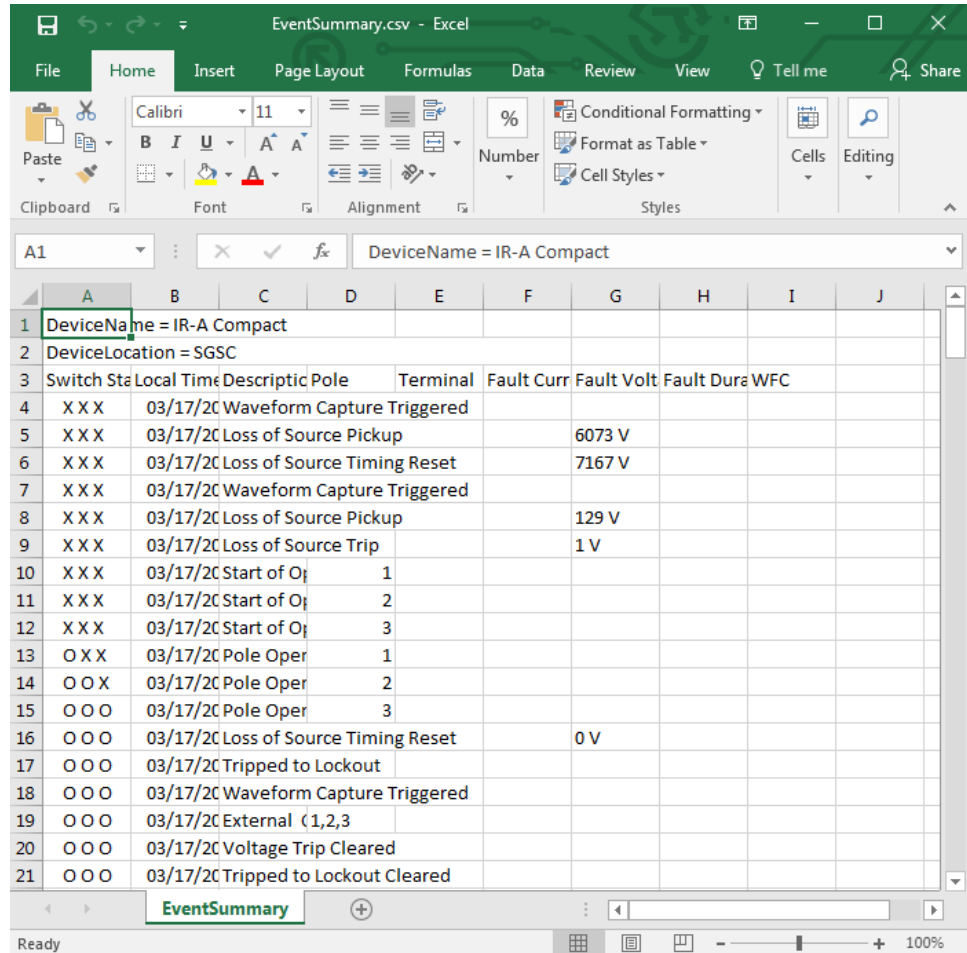

Figure 16. The Event Summary log displayed in Microsoft Excel.
- STEP 2.** Select the file with the desired extension. The tool will open files with .sevt extensions, whereas files with .html extensions will be opened with a default browser and files with .csv extensions will be opened with Microsoft Excel software. See Figure 16 on page 12.